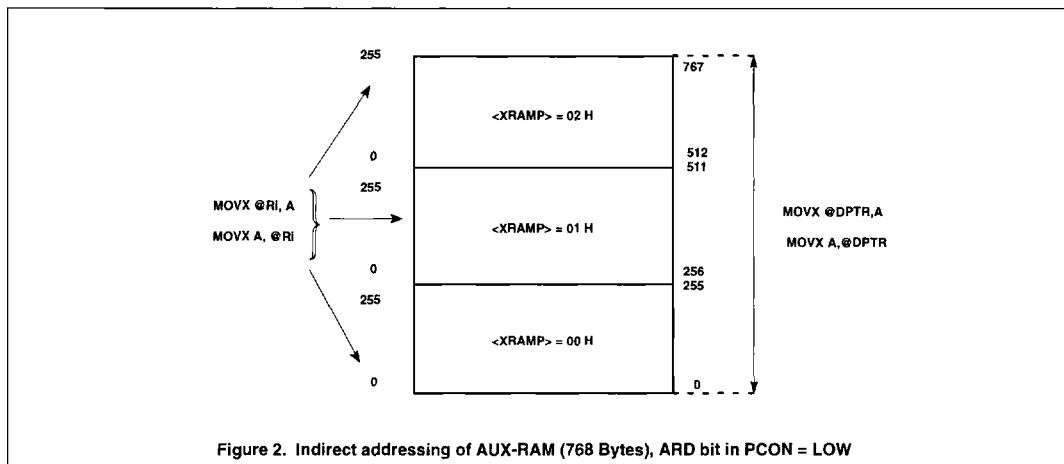

Figure 2. Indirect addressing of AUX-RAM (768 Bytes), ARD bit in PCON = LOW
- AUX-RAM 0 to 767 is indirectly addressable via pageregister (XRAMP) and MOVX-Ri instructions, unless it is disabled by setting ARD = 1 (see Figure 2). When executing from internal program memory, an access to